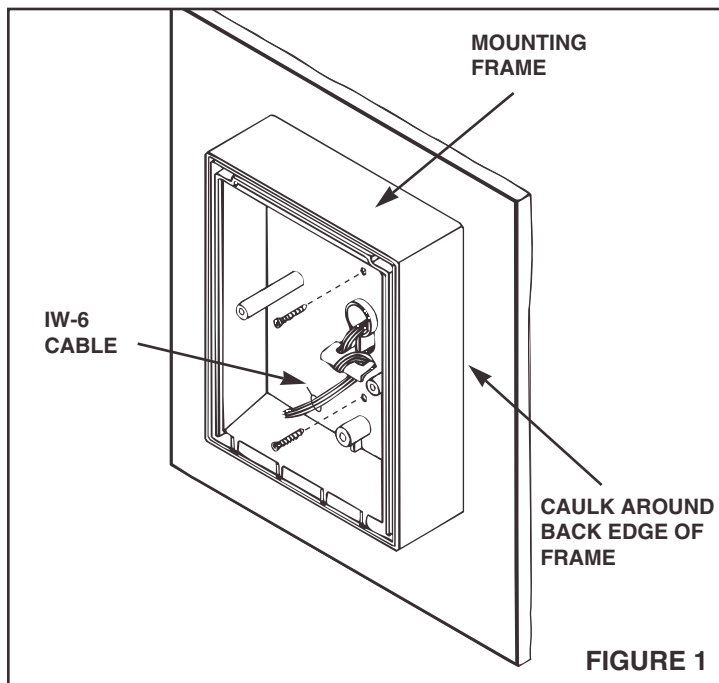

FIGURE 1
1. Refer to Figure 1. Run cable from master station to outdoor speaker location.
1. Refer to Figure 1. The mounting frame may be mounted directly to the exterior wall, or to a single-gang outlet box mounted in the wall.
3. Secure mounting frame to wall with two (2) N° 6 - 32 x 1¼" mounting screws.